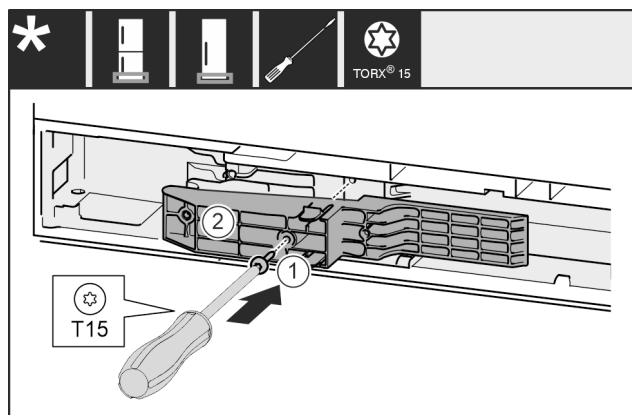

Fig. 48 \*
- ▶ Insert adapter Fig. 48 (1) in the recess on the handle side.\*
- ▶ Tighten screw Fig. 48 (2) with screwdriver.\*